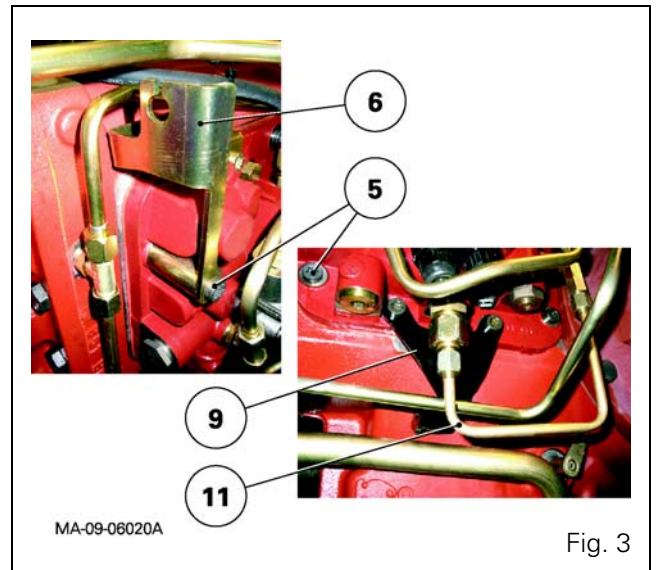

Fig. 3
13. Fit the handbrake control support (6) and the proportional PTO support (9) (if fitted) (Fig. 3). Take out the guide studs. Fit and tighten the screws (5) to a torque of 72 - 96 Nm.